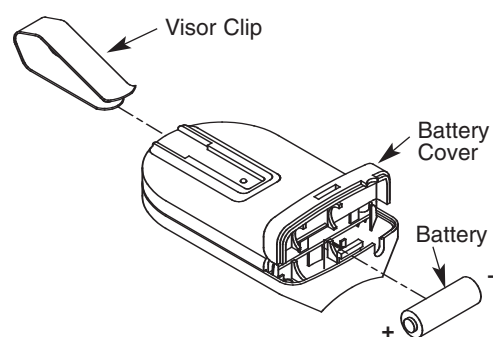

Fig. 3
Step 5-3 Attach Visor Clip to Transmitter Fig. 3